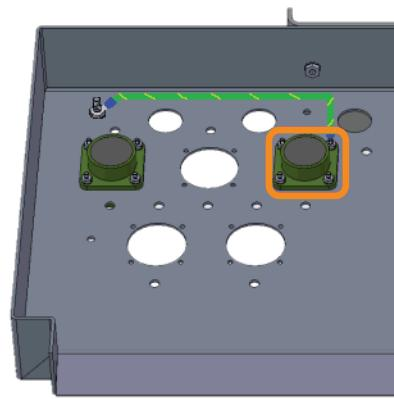

Figure 1 Install Ring Terminal
- Step 1. Install the low-voltage close receptacle harness in the bottom of the cabinet in the rightmost hole in the back row. Insert the receptacle from the inside of the cabinet and install three of the four screws from the outside. Install the nuts on the screws from the inside of the cabinet. See *Figure 1*.
- Step 2. Install the smaller ring terminal of the green/yellow ground wire to the last connector screw and secure it with the last nut. See *Figure 1*.
- Step 3. Use the existing nut to connect the larger ring terminal of the green/yellow ground wire to the ground stud. See *Figure 1*.